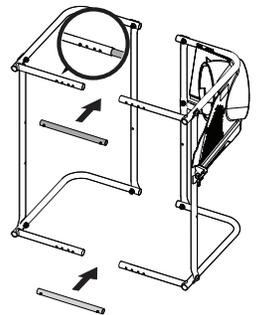

Figure 8
- Align left and right frame assemblies as shown in Figure 8.
- Insert adjustment tube into bottom front of left frame assembly as shown in inset of Figure 8, turning until spring button snaps into place in the hole farthest from the edge.